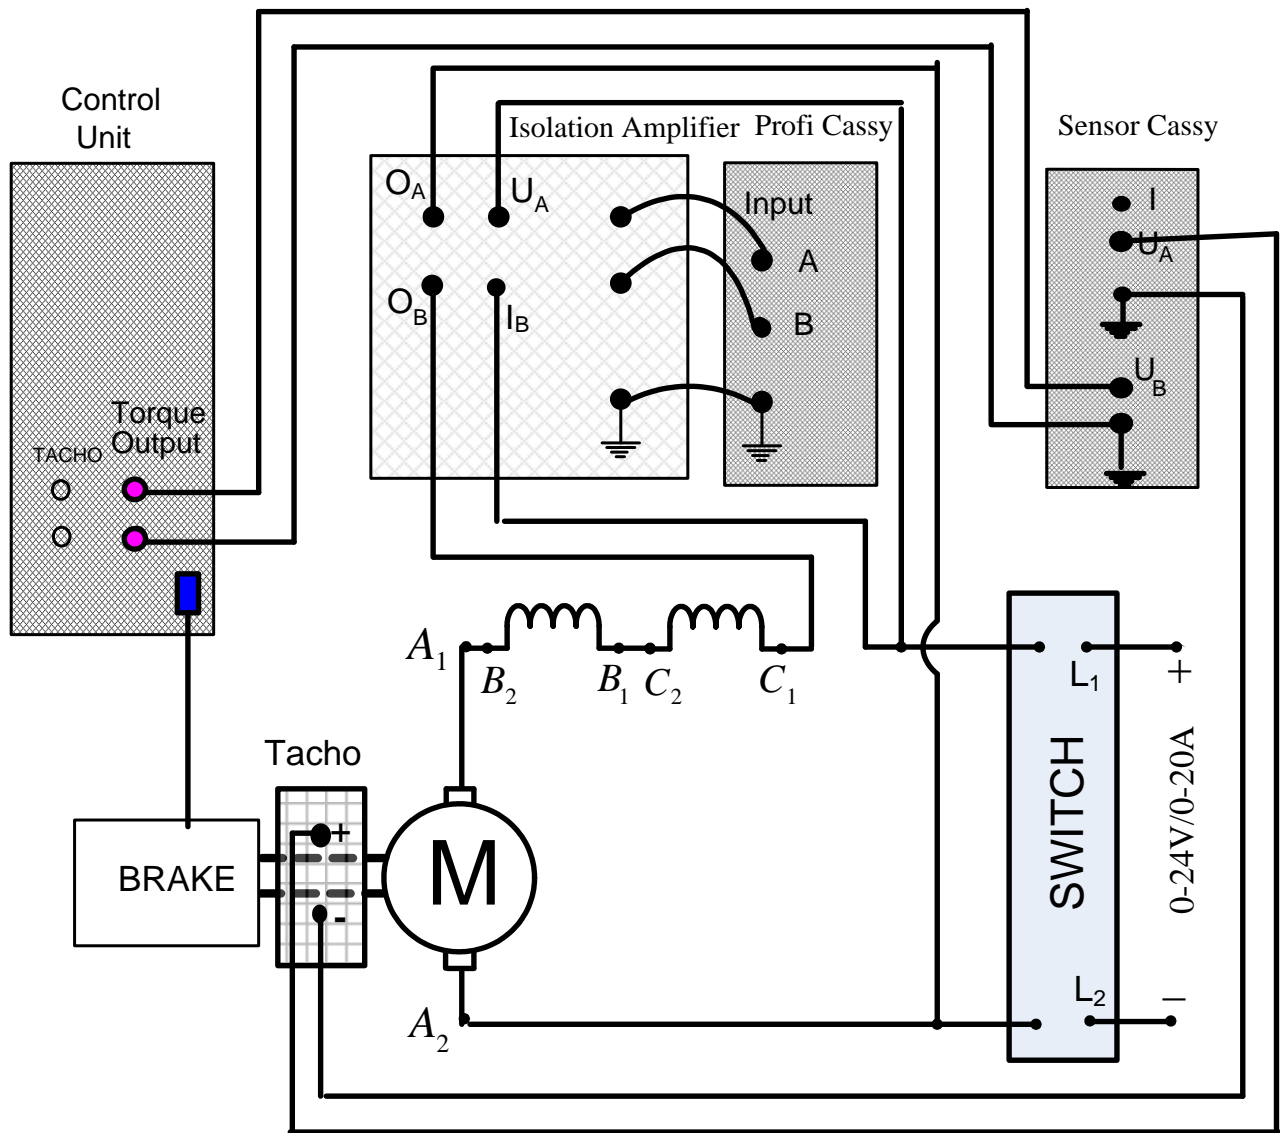

Fig. 4: Wiring diagram for armature time constant measurement
- Connect the circuit as shown in Fig. 4.